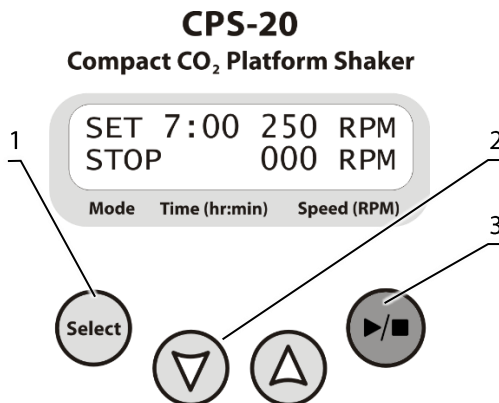

Figure 1. Control panel of CPS-20
5.3. **Setting the parameters.** Press the **Select** key (fig. 1/1) to choose the parameter to change. Each pressing of the **Select** key consecutively activates the parameters. The active parameter is flashing. Use the ▼ and ▲ keys (fig. 1/2) to set the necessary value. Pressing the key for more than 2 s increases the speed of value change.
5.4. Press the ▶/■ key (fig. 1/3). The platform starts rotation, indication RUN appears on display and the timer in the lower line of the display starts counting the time interval.